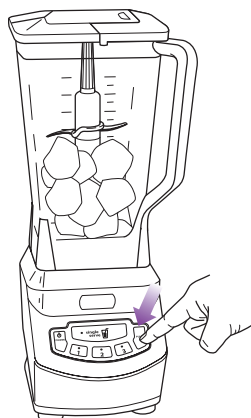

Fig. 6
- 8** Select the speed that best suits your needs. (Fig. 6)